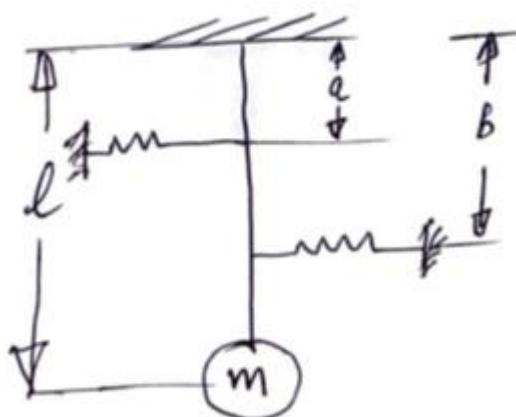

Figure 2b
b) Determine the natural frequency of the system shown in figure 2b.